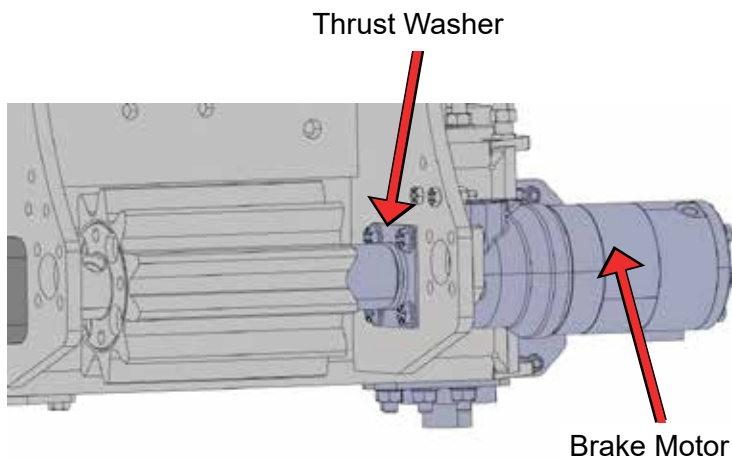

Figure 16
5. Apply one (1) drop of Loctite 263 to each bolt. Do not apply more than one drop.
6. **Brake Motor:** Install the **brake motor** on the right side of the grabber assembly. Do not push the motor flush against the grabber assembly until the thrust washer is installed (see Step 7) (Figure 16). It may be necessary to turn the drive motor enough to correctly position the spline to allow the brake motor to be installed.
7. Install a thrust washer in place around the brake motor spline (Figure 16).